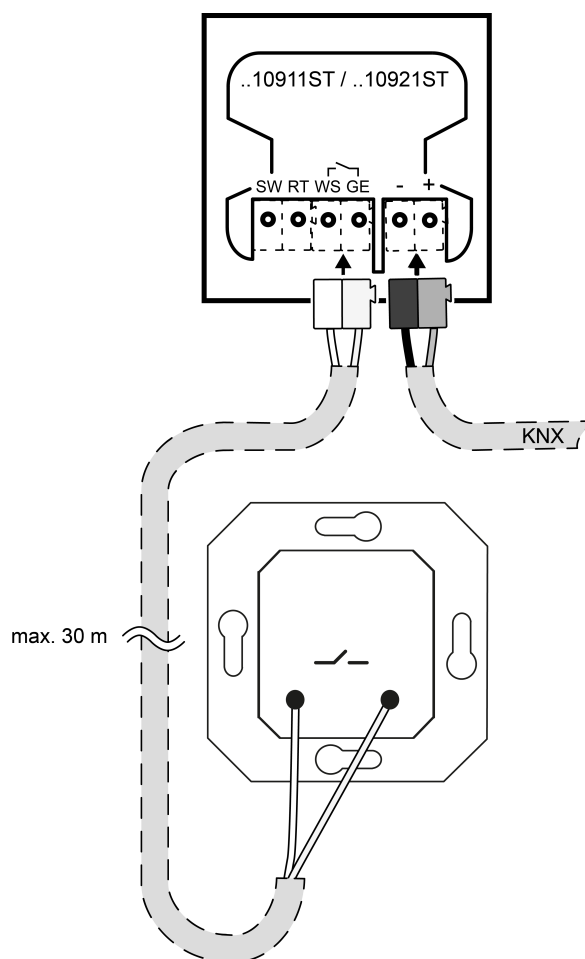

Figure 5: Connecting installation push-button
- Optional: Connect external switching contacts (e.g. push-button or reed contacts) to the connection terminal (Figure 5).
#### Connecting external switching contacts (Figure 5)